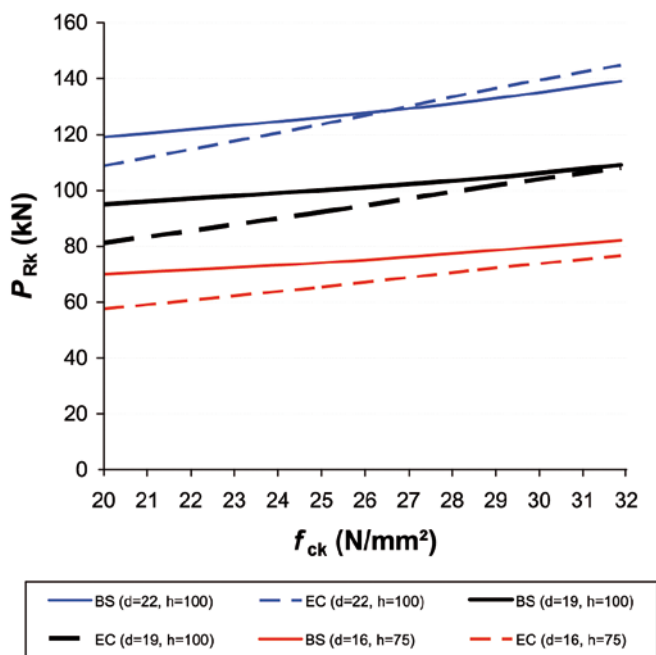

Figure 3: Characteristic stud resistance against concrete strength for various stud dimensions in solid slabs
In the majority of cases, equation (2) will dominate (the exception being when very weak steel is used for the shear connectors). Figure 3 shows the difference between the values used in the BS (solid) and the Eurocode (dotted) for a number of stud dimensions.